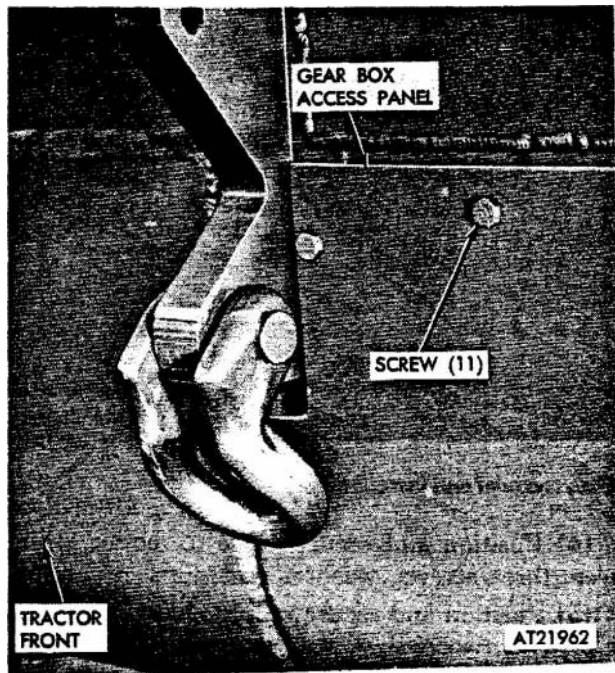
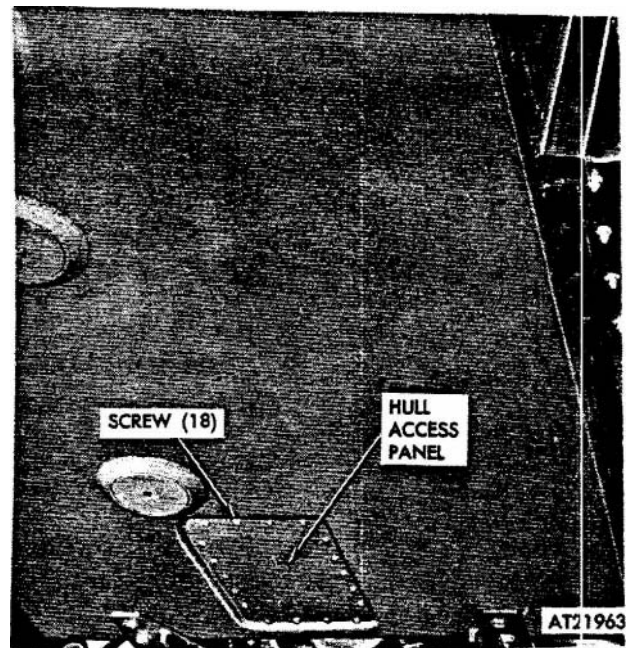

Figure 2-310. Tractor steering gear box access panel, removal and installation.
Figure 2-311. Tractor hull access panel removal and installation.
(1) Remove tractor steering gear box access panel by removing eleven screws (fig 2-310).
(2) Remove carrier steering gear box access panel (refer to para 2-174).
(3) Remove master cylinder access panel (refer to para 2-161).
(4) Remove tractor hull access panel and gasket by **removing** eighteen screws securing panel to bottom of tractor hull (fig 2-311).
(1) Install tractor hull access panel (fig 2-311) and the following steps:
(2) Install master cylinder access panel (refer to para 2-161).
(3) Install carrier steering gear access panel (refer to para 2-174).
(4) Install tractor steering gear access panel by positioning panel to structure and securing with eleven screws (fig 2-310).